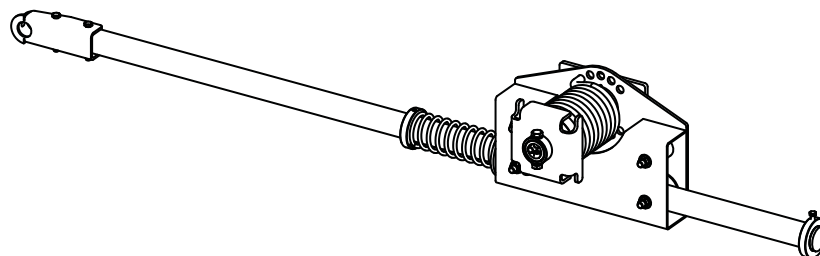

Figure 10
6) See Figure 10. Slide the swing-arm assembly (2) through the leg of the rear pivot box assembly. Slide the remaining lock collar (3) onto the rear swing-arm assembly and tighten one 5/16-18 x 1" W/ nylon patch (4) thru hole in tube and tighten second bolt against tube.
- 3) **See Figure 10.** Measure and note the distance between the shaft collar face on the front roll-up adapter and the shaft bushing face on the swing-arm.